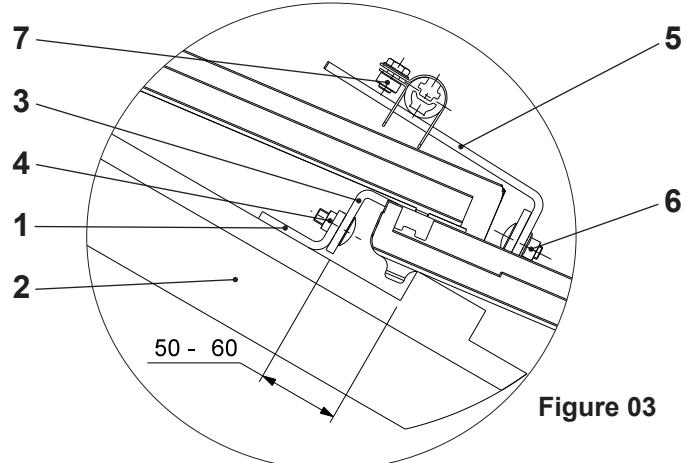

Figure 03
2. Mount the base bracket (1, Figure 03) of the roof bar on the rafter (2) and align it parallel to the roof lath.
3. Fit the **bottom** bracket hook (3, Figure 03).
- Using the carriage bolt (4), adjust the height of the bottom bracket hook so that there is still some play between the tile and the bracket hook.
4. Insert the **top** bracket hook (5, Figure 03) into the carriage bolt (4) of the **bottom** bracket hook (3).
- Distance between **top edge of rafter** (2) and **top edge of bracket hook** (5) 120 mm.
- Tighten the carriage bolt (6)
Top: Alignment clip (7, Figure 03) roof bar